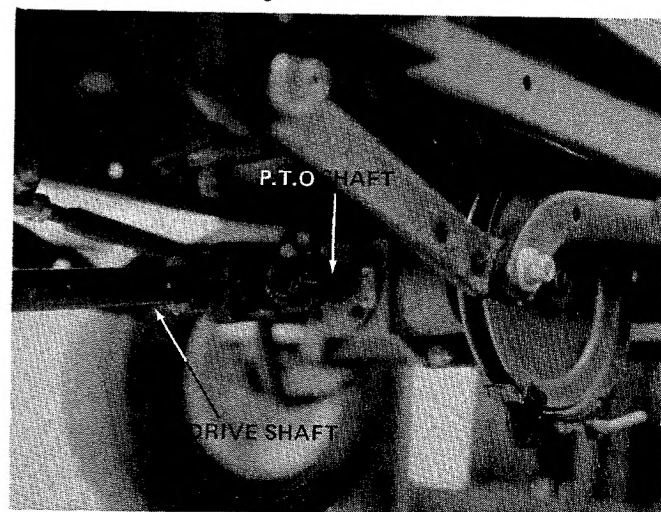

FIGURE 15
5. Place end of drive shaft over P.T.O. shaft on front of tractor. See figure 15.